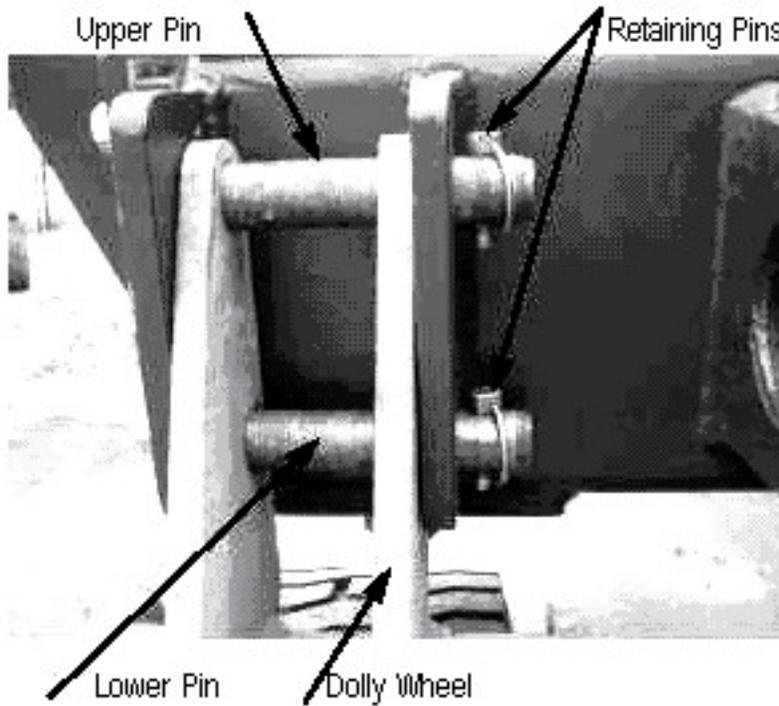

Figure 3-166
(1) Place dolly wheel so that tire will be under the twistlock when wheel is lifted.
(2) Install upper pin from outside of tophandler. Lock pin in position with retaining pin (see Figure 3-166).